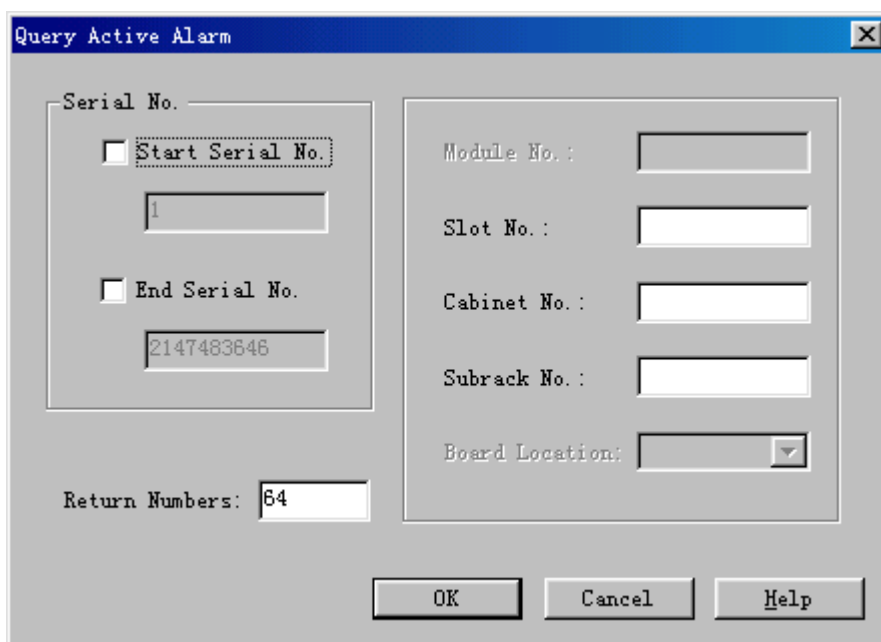

Figure 5-6 Query Active Alarm dialog box
- 1) In the NodeB alarm management system, select **Query** -> **Query Active Alarm**. The **Query Active Alarm** dialog box opens up as shown in Figure 5-6.